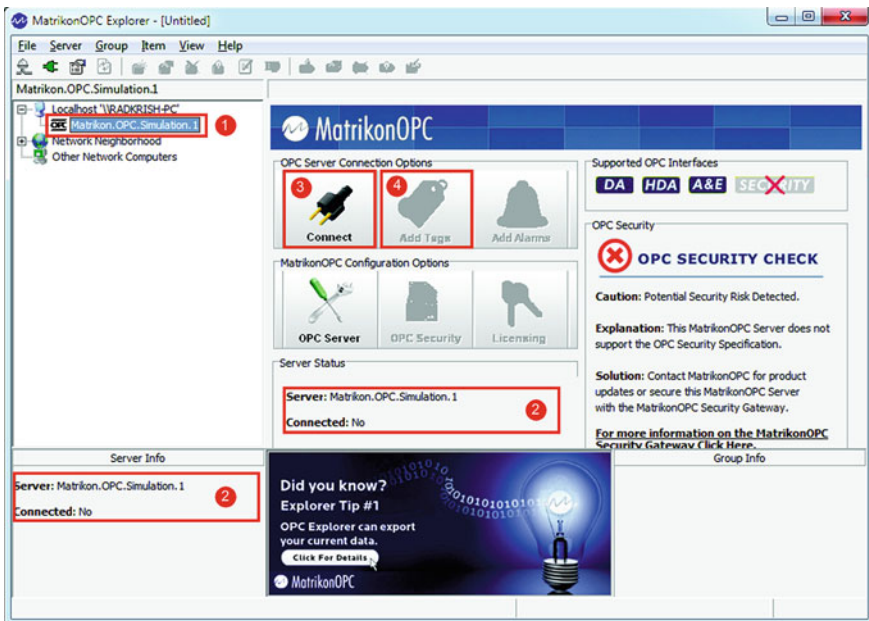

Fig. 16.11 Matrikon OPC server explorer
- OPC server(s) running on the local computer (marked ❶ in Fig. 16.11)
- Status of the connectivity between the OPC server and the server explorer (marked ❷ in Fig. 16.11)
- Button to connect and disconnect from the OPC server (marked ③ in Fig. 16.11)